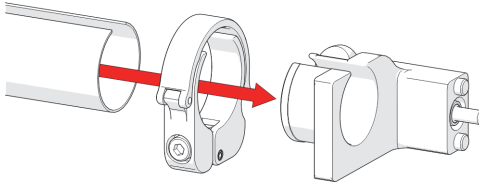

Figure 2-122 Slide tube around mount
2. Slide the clamp around the tube, and then slide the tube around the outside of the mount (see Figure 2-122 on page 125).